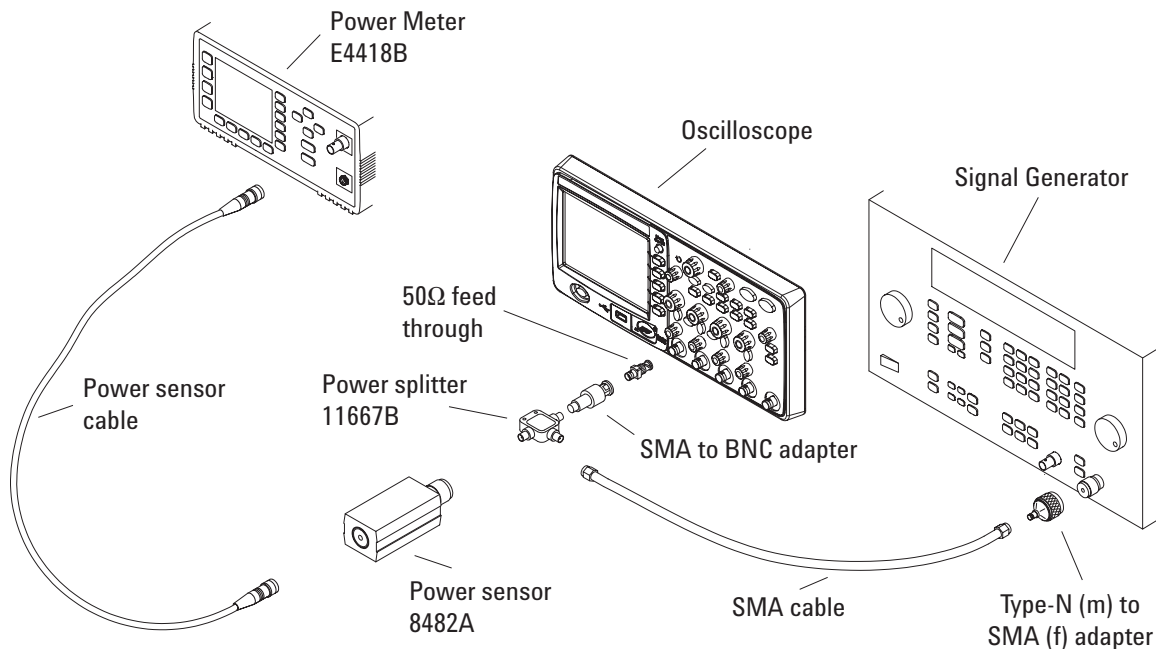

Figure 4 Connecting Equipment for Maximum Frequency Check Test
- 1 Connect the equipment as shown in Figure 4.